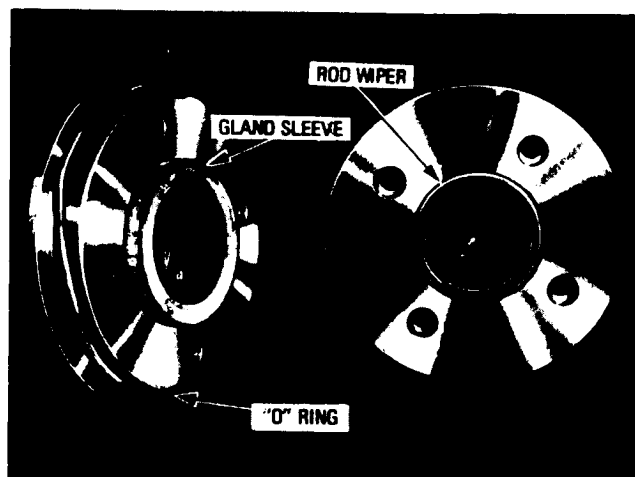

Fig. 5- Gland Assembly
1. Place new wiper, gland sleeve and barrel-to-gland "O" ring on gland as shown in Fig. 5.